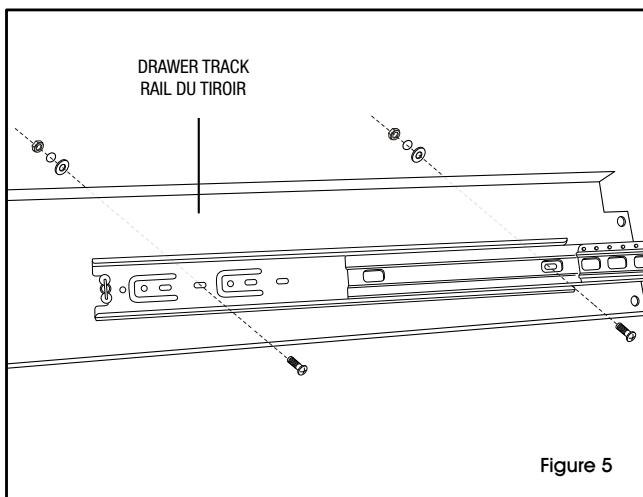

Figure 5
2. Attach drawer slides to drawer tracks using 2 small bolts, washers, lock washers and nuts. Extend drawer slide completely to attach to track. Insert center bolt first to align front bolt hole. (See Figure 5)
(Voir la figure 5)